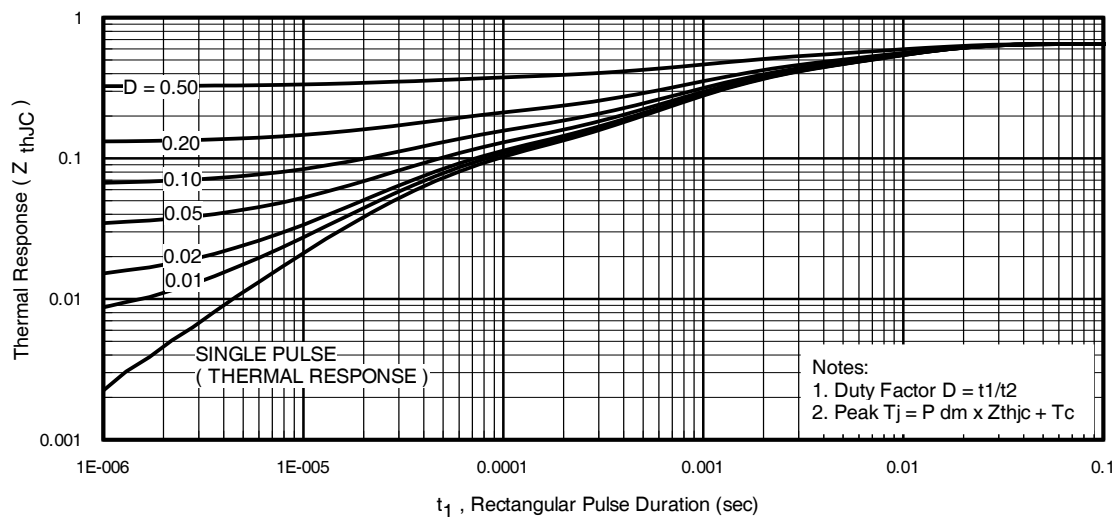
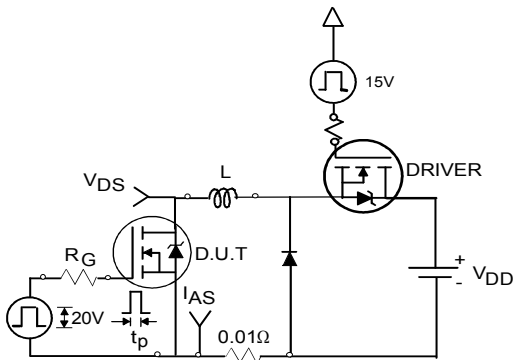

Fig 11. Maximum Effective Transient Thermal Impedance, Junction-to-Case
Fig 12a. Unclamped Inductive Test Circuit
- ① Repetitive rating; pulse width limited by max. junction temperature. (See fig. 11)
- ② Limited by T_{Jmax} , starting $T_J = 25^\circ\text{C}$, $L = 0.10mH$, $R_G = 25\Omega$, $I_{AS} = 75A$, $V_{GS} = 10V$. Part not recommended for use above this value.
- ③ Pulse width $\leq 1.0ms$; duty cycle $\leq 2\%$.
- ④ $C_{oss\ eff.}$ is a fixed capacitance that gives the same charging time as C_{oss} while V_{DS} is rising from 0 to 80% V_{DSS} .
- ⑤ Limited by T_{Jmax} , see Fig.12a, 12b, 15, 16 for typical repetitive avalanche performance.
- ⑥ This value determined from sample failure population, 100% tested to this value in production.
- ⑦ This is applied to D²Pak When mounted on 1" square PCB (FR-4 or G-10 Material). For recommended footprint and soldering techniques refer to application note #AN-994
- ⑧ R_θ is measured at T_J approximately 90°C
- ⑨ Calculated continuous current based on maximum allowable junction temperature. Bond wire current limit is 160A. Note that current limitations arising from heating of the device leads may occur with some lead mounting arrangements. (Refer to AN-1140)
- ⑩ All AC and DC test condition based on old Package limitation current = 75A.
3. Equation below based on circuit and waveforms shown in Figures 12a, 12b.